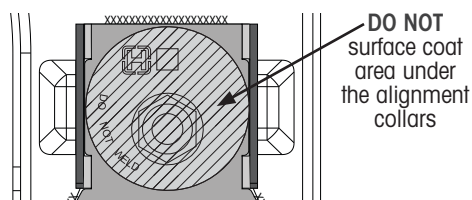

Figure 11: QUIK-ALIGN pivot connection hardware
4. After alignment, **apply** soft coat to all exposed metal surfaces as defined in Hendrickson literature number T12004 Hot Wax Surface Coat Maintenance Procedures, see Figure 11.